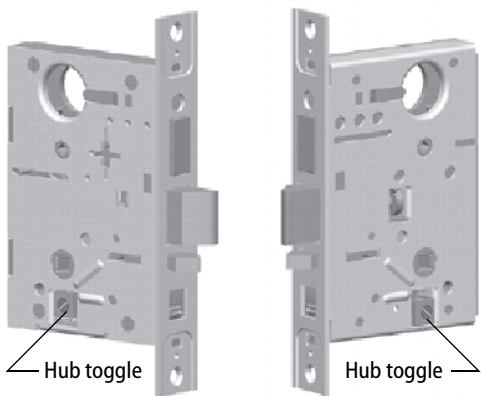

Figure 6 Positioning hub toggles
- 1 Check whether the hub toggles are in the proper position for the lock. See the table below and Figure 6.